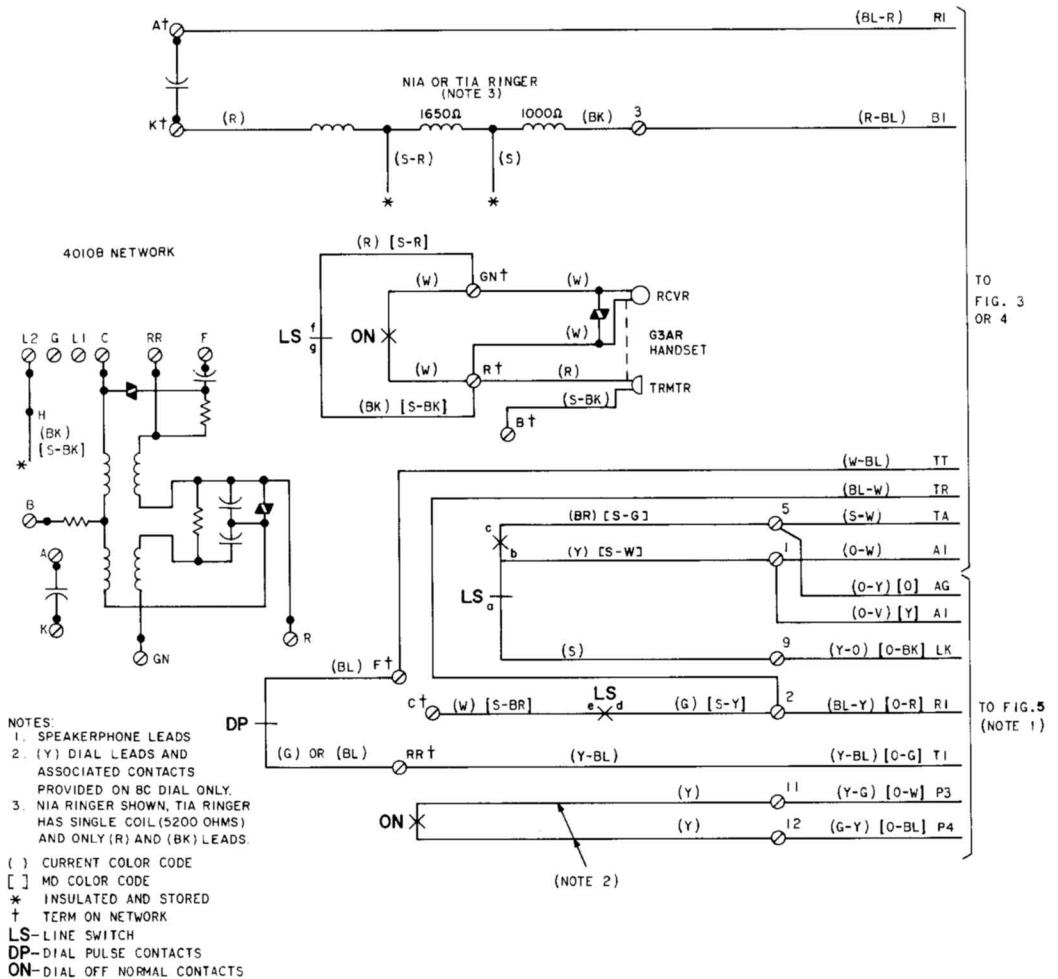

Fig. 1—Current 634- and 635-Type (MD) Telephone Set, Connections
- Add information on T1A ringer, Fig. 1 and change 241A amplifier to 241-type
◆ Fig. 1—Current 636- and 637-Type (MD) Telephone Set, Connections ◆